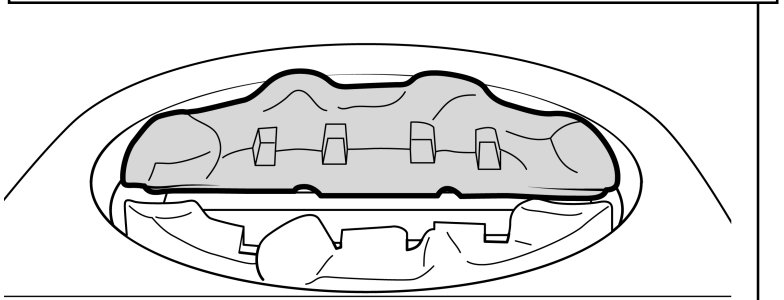

Figure 6 Rear base pebble location
2. The rear base pebble has the letters 'MB' on the underside. Locate the rear base pebble behind the burner (See figure 6)